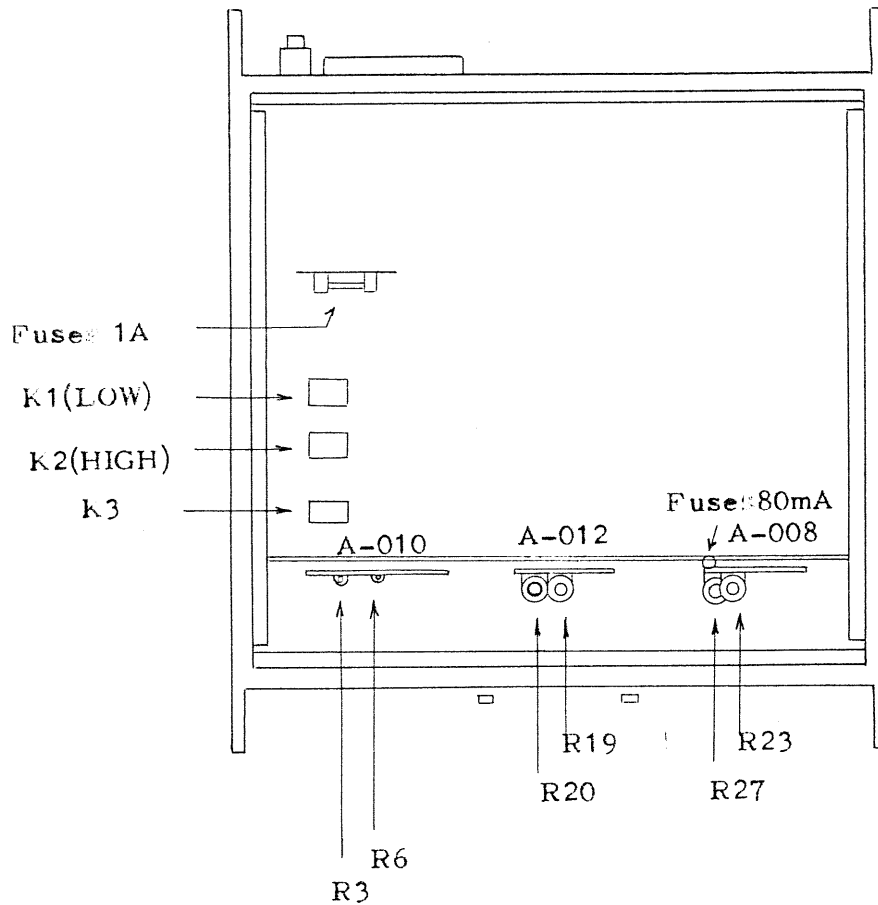

Fig. 4-1
To adjust potentiometers in order to compensate for aging or component replacement variation, proceed as below. (Refer to Fig. 4-1.)
4.3 Fuses (Refer to Fig. 4-1)